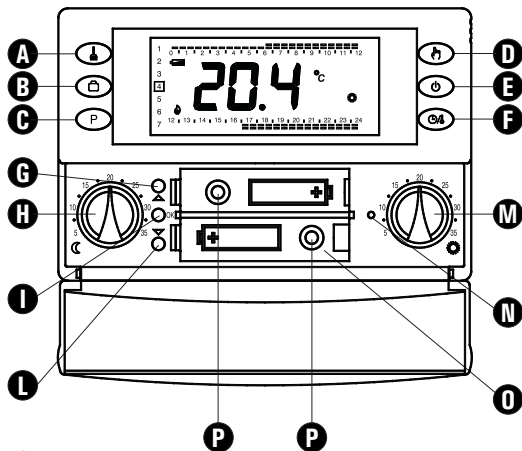

Fig. 1
6. Insert the batteries in the battery compartment (0 in Fig. 1); see paragraph 'HOW TO INSERT/REPLACE THE BATTERIES'.